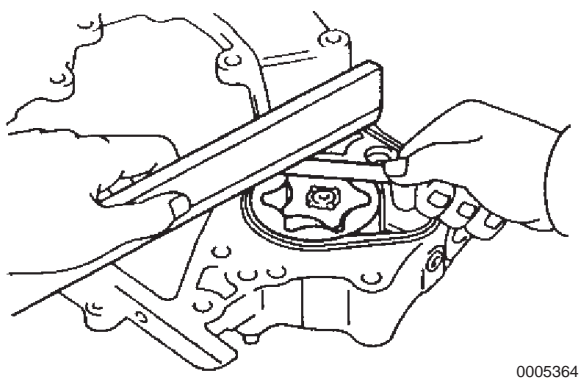

Figure 8-12
7. Check the clearance of the rotor assembly by measuring the clearance between the rotor and body end surface using a feeler gauge and a straight edge (**Figure 8-12**). If the measured clearance exceeds the specified maximum, replace the oil pump assembly.